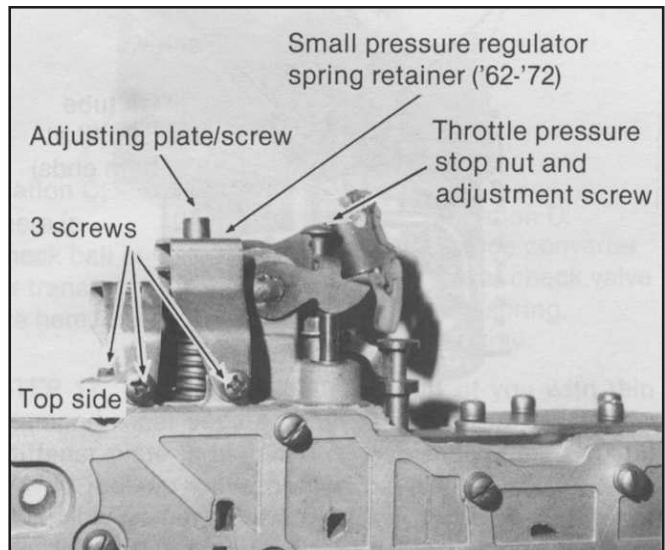
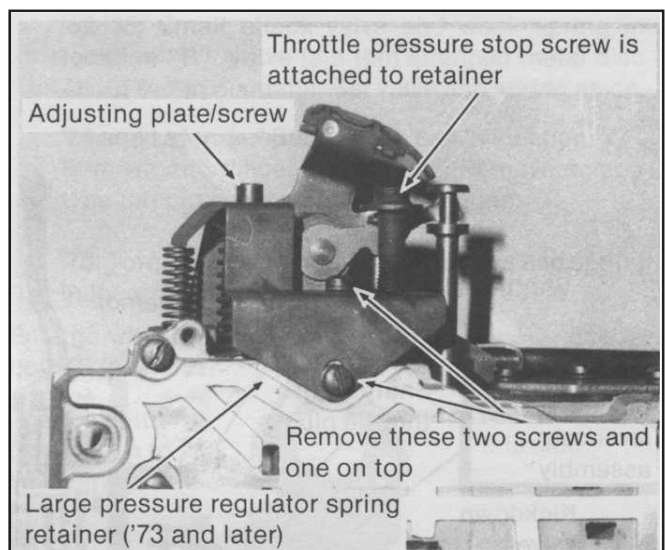
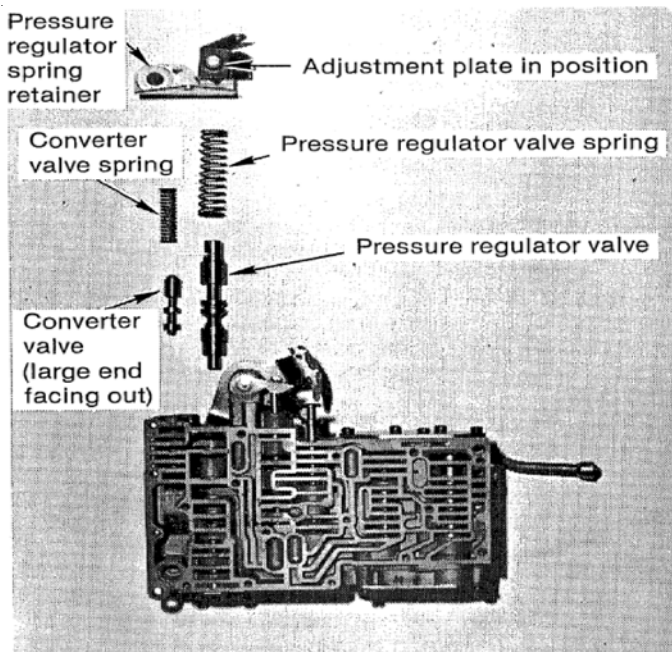

Figure 4
Figure 5
FIGURE 10
Now remove the pressure regulator spring retainer located next to the selector lever. (See Fig. 4) Remove three shorts screws to remove retainer. Late model valve bodies with large cage will require removal of one long valve body screw. (See Fig. 5)
CAUTION: Hold your hand against the retainer while removing the screw (See Fig. 4) so the large pressure regulator spring does not fly out. Remove the retainer and adjustment plate, pressure regulator spring and converter valve spring and set them aside. Remove the regulator valve and converter valve and lay them next to their respective springs. Large cage models: Be careful that the throttle pressure valves do not fall out when working on the valve body.
STEP 10. Install pressure regulator valve into its bore. (See Fig. 10) Install converter valve into its bore. Both valves should move freely and easily. Remove any burrs that may cause stickiness or binding. Set casting aside.
Align transfer plate assembly over casting and hold the two halves together with your hand. Install fourteen screws in place finger tight. (Note: Three long screws are for the filter.) Install pressure regulator spring and converter valve spring in place. (See Fig. 10) Insert pressure regulator adjusting plate into place in retaining cage. Adjusting plate is a close fit when properly installed inside the retainer. Engage pressure regulator spring with adjusting plate and engage converter valve spring with prong in retainer. Hold retainer against valve body, align screw holes and install three short screws finger tight. (See Fig. 4)